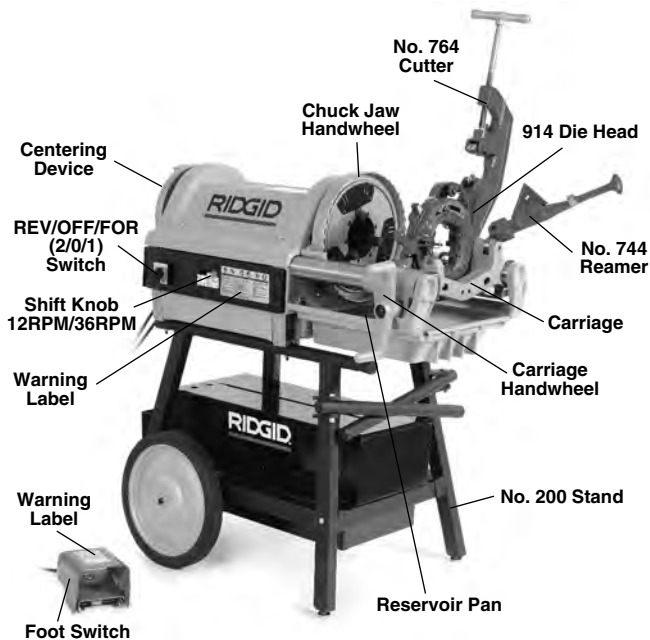

Figure 1 – 1224 Threading Machine
- Presence and readability of warning labels (*Figure 1*).